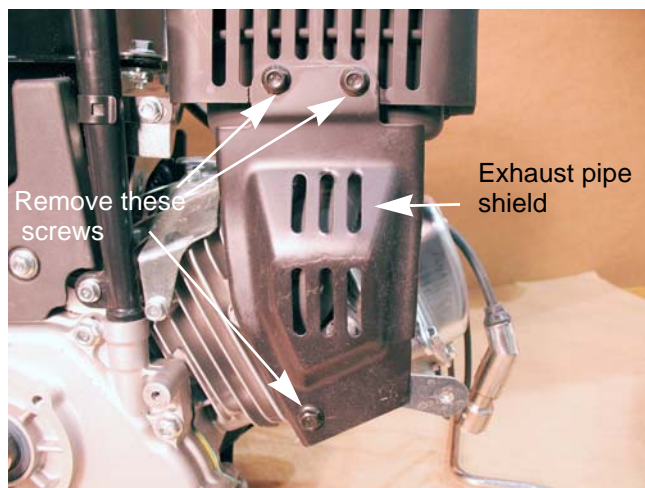

Figure 8.9
5. Remove the three screws that secure the exhaust pipe shield using a 10 mm wrench. See Figure 8.9.